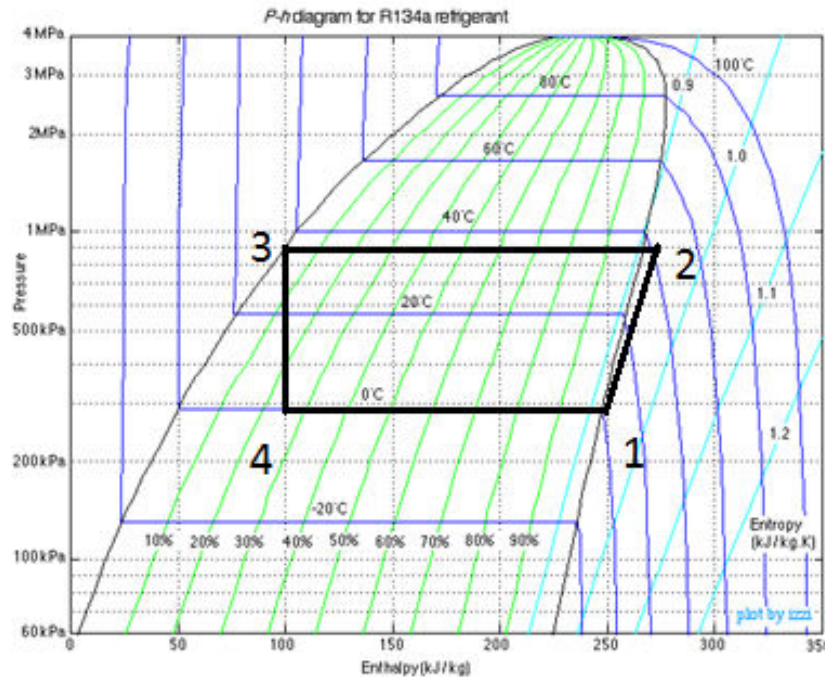

Fig.3. The heat pump cycle in a p-h diagram
- Line 1-2 Fig.3, compressing the refrigerant to a higher pressure, at which the boiling temperature is above the user's temperature.
- Line 2-3 Fig.3 condensation of the refrigerant in the condenser, the heat flow  $Q_{out}$  is discharged to the user.
- Line 3-4 Fig.3 throttling, an expansion valve is used for throttling .
- Line 4-1 Fig.3 Evaporation. During evaporation, the refrigerant absorbs the heat flow  $Q_{in}$  from the heat sources.